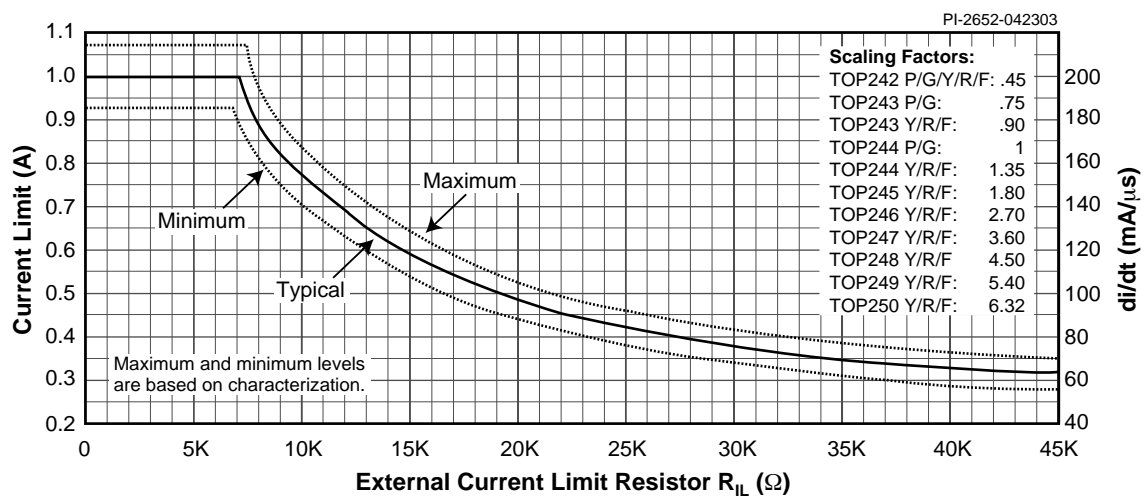

Figure 54b. Current Limit vs. External Current Limit Resistance (See Figure 55b for TOP245P).
- C. For externally adjusted current limit values, please refer to Figure 54b and 55b (Current Limit vs. External Current Limit Resistance) in the Typical Performance Characteristics section. The tolerance specified is only valid at full current limit.